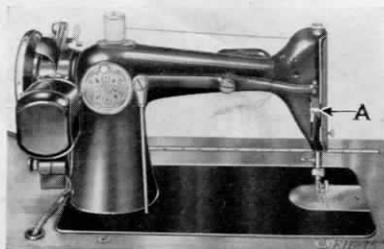
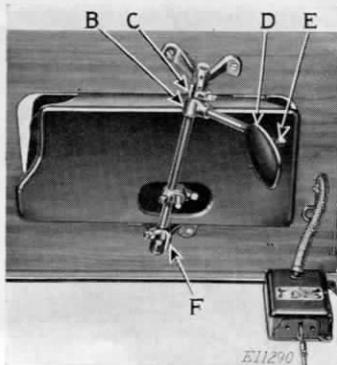

FIG. 2. REAR VIEW OF MACHINE,
FIG. 3. UNDERSIDE OF TABLE, SHOWING
The knee plate (D, Fig. 3) may be moved up or down to suit the operator after loosening the set screw (E). It may be swung to the right or left after loosening the set screw in the hub (B).
The stop (C) should be set so that the knee lifter cannot raise the presser bar any higher than it is raised by the hand lifter (A, Fig. 2), in order to prevent strain on the tension release mechanism. The rear stop (F, Fig. 3) should permit a little loose motion of the knee lever after the presser foot has been lowered to the throat plate.